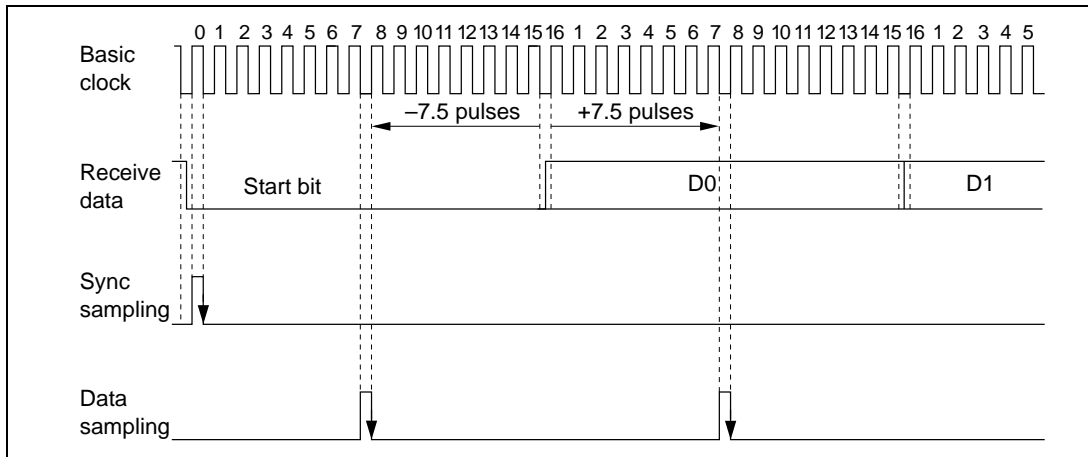

Figure 12-18 Sampling Timing (Asynchronous Mode)
(4) Sampling Timing and Receive Margin in Asynchronous Mode: The serial clock used by the SCI in asynchronous mode runs at 16 times the bit rate. The falling edge of the start bit is detected by sampling the RxD input on the falling edge of this clock. After the start bit is detected, each bit of receive data in the frame (including the start bit, parity bit, and stop bit or bits) is sampled on the rising edge of the serial clock pulse at the center of the bit. See figure 12-18.